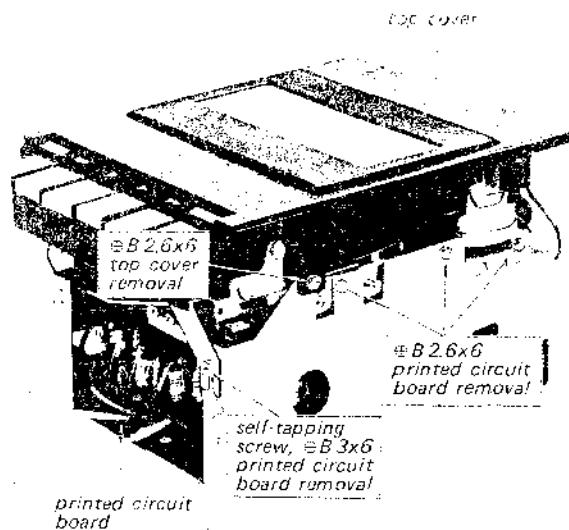

Fig. 2-6. Top cover removal
2. Remove the screw ($\oplus B\ 2.6\times 6$) securing the top cover to the chassis as shown in Fig. 2-6.
2. Remove the three screws (\oplus B 2.6x6) and the self-tapping screw (\oplus B 3x6) as shown in Fig. 2-6.